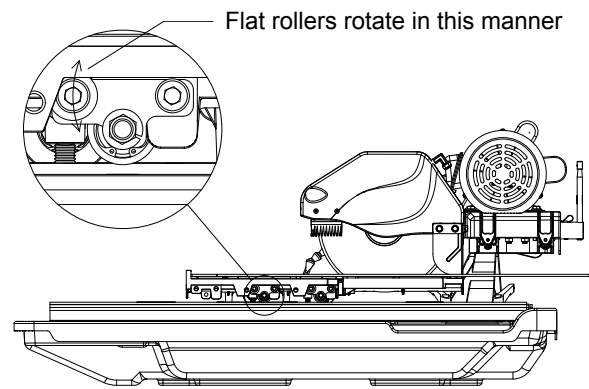

figure 17
2. Loosen the socket bolts on the flat roller plate so that the roller can swing freely about one bolt. (see figure 17) Do this for both flat roller plates.